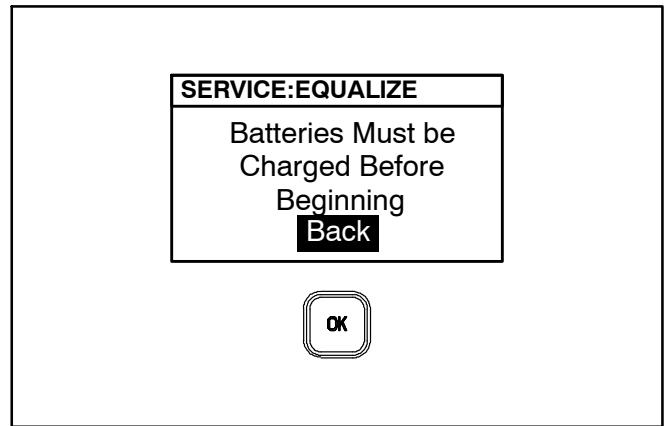

FIGURE A-23. NOT FULLY CHARGED SCREEN
**Note:** Shore power must be connected, the batteries must be fully charged and AUTO must be disabled. If the batteries are not fully charged the EQUALIZE screen will notify you that they must be full charged (Figure A-23).